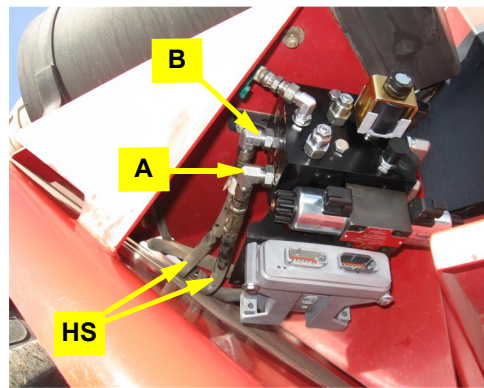

Figure 9c: Steering output hoses connected to steering block
- c. Connect the hose ends with the smaller JIC straight connectors to the **A** and **B** ports on the hydraulic steering block (Figure 9c).